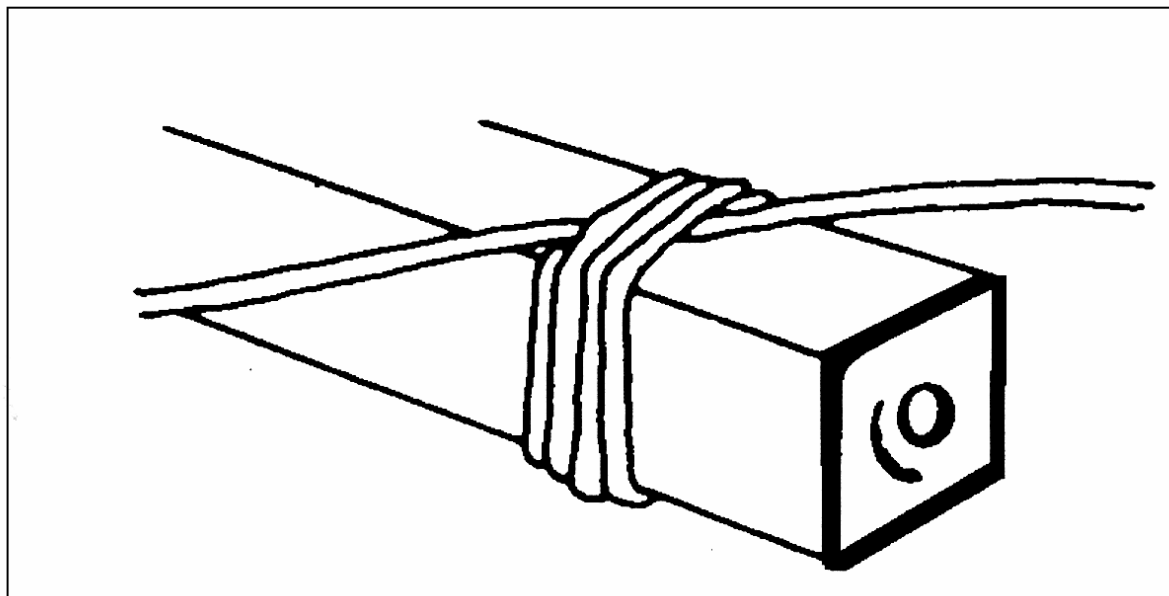

Figure 052-193-1311-1
- a. Common method. Lay one end (1-foot length) of detonating cord at an angle across the explosive. Wrap the running end around the block three turns, laying the wraps over the standing end. On the fourth wrap, slip the running end under all of the wraps, parallel to the standing end, and draw the wraps tight. This forms a clove hitch with two extra turns (Figure 052-193-1311-1).